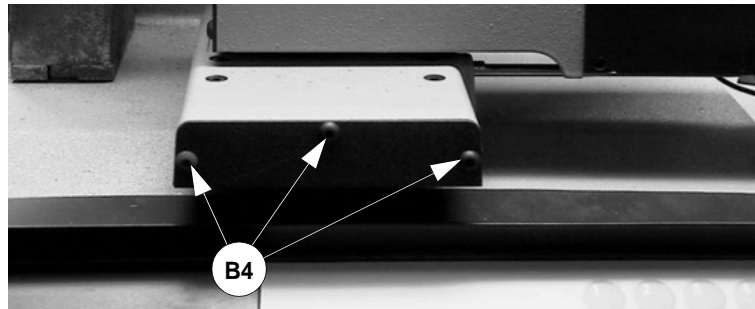

Fig. 144
- 5) remove the front cover on the (X axis) lower carriage (fig. 144) by unscrewing the 3 (B4) screws.